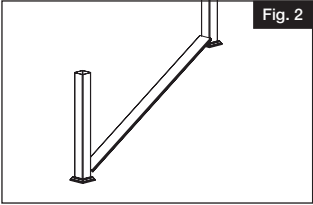

Fig. 2
- b. Temporarily place a deck board ( $\frac{3}{4}$ " ) to your stair treads to determine the spacing between the nose of the stairs and your bottom rail (Fig 2).